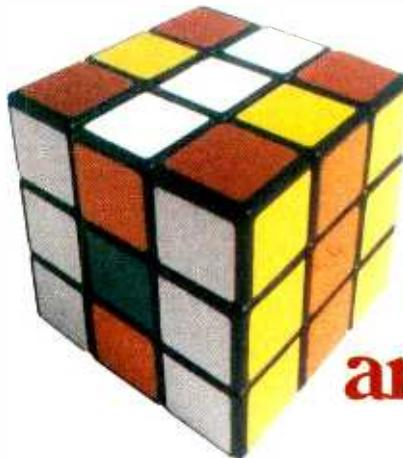

*Fig. 1. A short program in three numbering systems: binary, octal and hexadecimal.*
**M**ODERN computers permit direct access to the microprocessor through an operating program called a Monitor. The program is usually stored in Read Only Memory (ROM) and starts to run as soon as the computer power is turned on. Since it is more difficult to work with strings of binary numbers, it has become common practice to shorten the machine codes by using octal notation (base 8) or hexadecimal notation (base 16). Figure 1 shows a short program in binary, octal, and hexadecimal notations.
In the example, taken from Fig. 1, the Operand is from the Intel 8080 instruction set, where LXI means Load Immediate. The arguments B,0 indicate that the register pair BC are to be loaded with zero. Sometimes, when the value of an argument is not known, a symbolic expression is used to represent it. The label field is optional and represents the location of the memory address of the instruction (which may be unknown), and which will change from application to application. In addition, each Assembler will have a set of pseudo-ops which do not produce machine code. The pseudo-op replaces the instruction mnemonic in the operand field. For example, the pseudo-op ORG (origin) tells the assembler that the program starts at a given location, e.g., ORG 100H (where H stands for hexadecimal).